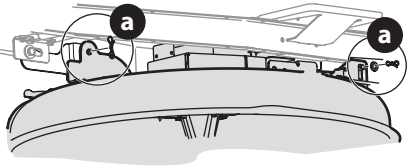

Figure 34
- Remove the remaining bow-tie cotter pins (a) securing the deck to the riding mower (Figure 34).
NOTE: When reassembling, the bow-tie cotter pins (a) should be re-installed from the top down (Figure 34).